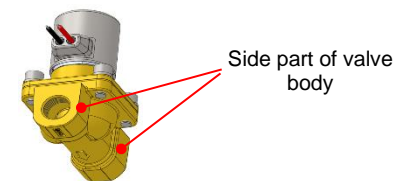

Figure 2. Clamp area of valve
- When connecting piping/fitting to the valve, clamp the valve body. See Figure 2.